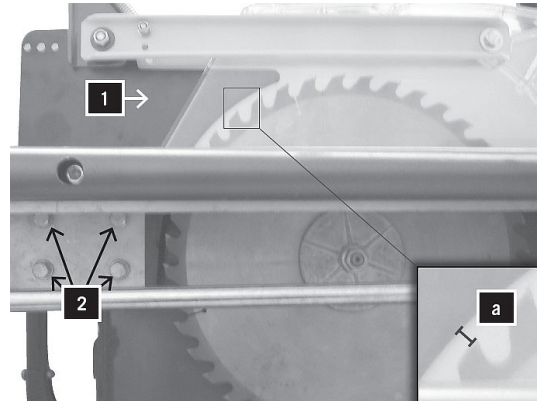

Fig. 6: Mount saw blade guard
Step 4: Insert the assembled protective hood with riving knife (Pos.1, Fig.6) from above between the guide plate and the clamping plate.
Step 5: Adjust the distance between the riving knife and the saw blade to 3 - 8 mm (Pos.a, Fig.6), tighten the clamping plate with four hexagon screws (Pos.2, Fig.6) and washers.